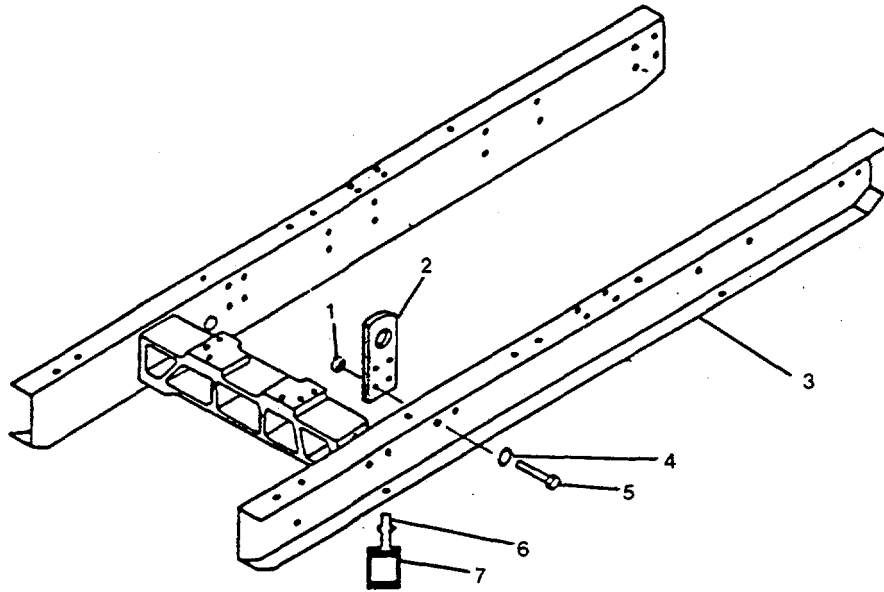

FIGURE 3-84. Subbase Group.
- a. Attach the lifting fixture to the four lifting pad eyes (2, Figure 3-84).
- b. Remove the nuts (6) and lift the subbase (3) clear of the resilient mounts (7). Remove the mounts.
- d. Remove four hexagon capscrews (5), lockwashers (4), and plain hexagon nuts (1) to remove each lifting pad eye (2).
The subbase is mounted to the six resilient mounts (7, Figure 3-84).
- a. Install new resilient mounts (7). Refer to paragraph 3-12.
- b. Install the lifting padeyes (2, Figure 3-84) with capscrews (5), lockwashers (4), and nuts (1)-to the subbase (3).
- c. Attach the lifting fixture to each lifting pad eye (2) and lower the subbase (3) onto the six resilient mounts (7).